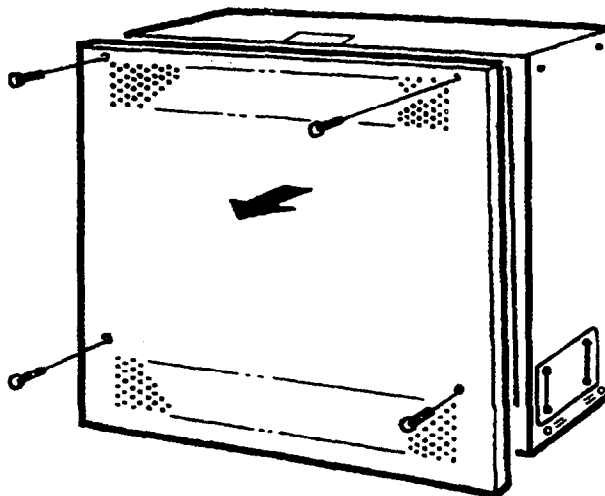

Figure 2-7 Removing the KSU Cover
1. Loosen the four cover screws and remove the front cover. Refer to Figure 2-7 - Removing the KSU Cover.